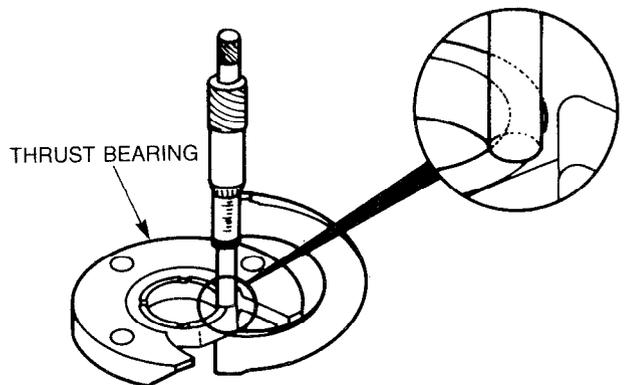

Figure 146 — Measuring Thrust Bearing Thickness
- i. Measure the thickness of the thrust bearing using an outside micrometer with the micrometer positioned over one of the oil grooves (see Fig. 146). The standard thickness of the thrust bearing is 5.33-5.38 mm (0.210-0.212 in.), replace the bearing if the thickness is less than 5.31 mm (0.209 in.).